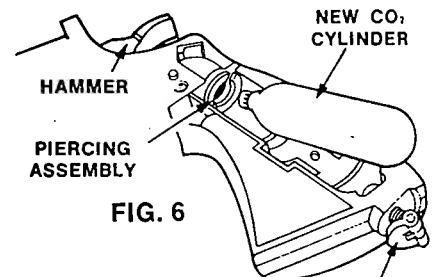

FIG. 6
- A. Insert the new CO2 Cylinder into the Revolver with the small neck of the Cylinder pointing toward the Hammer. Fig. 6.